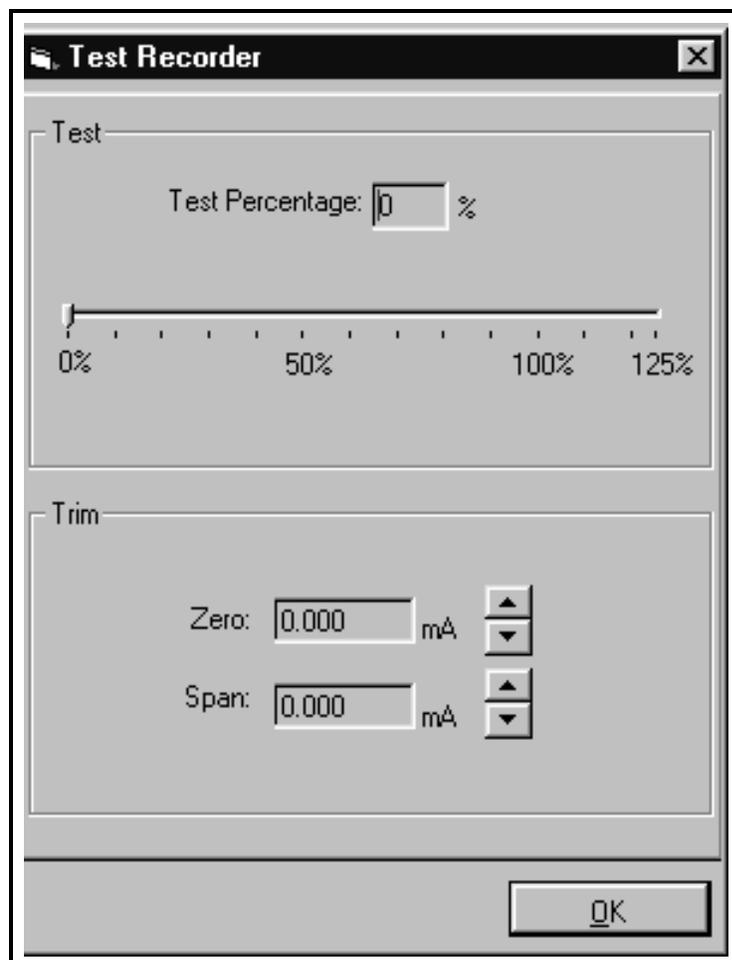

Figure 4-6: Recorder Test Window
2. The “Test Recorder” window appears, as shown in Figure 4-6 below. At the top, slide the pointer to the desired percentage of the full scale recorder range, and click on [OK].